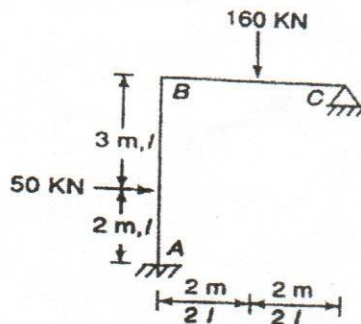

Fig.6
- a) Write  $A_{DL}$  matrix for the frame shown in Fig.6